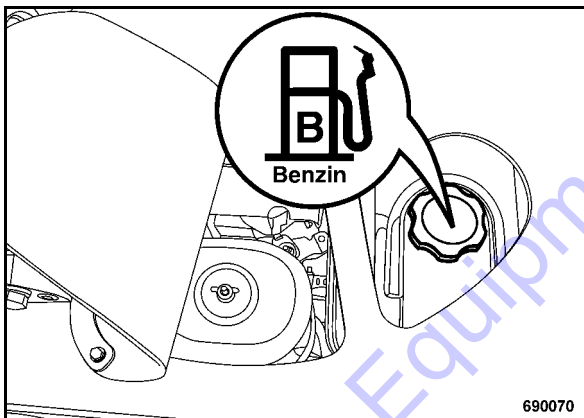

Fig. 41
- Clean the area around the filler cover, unscrew the filler cover (Fig. 41).